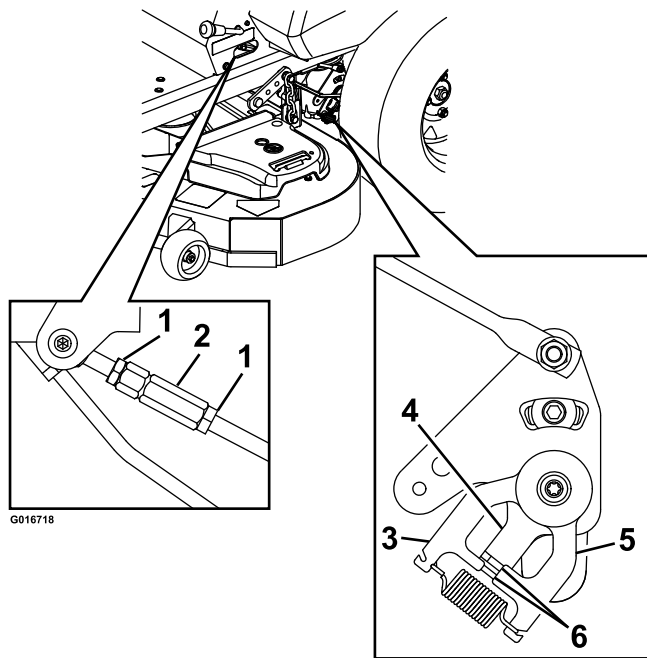

Figure 30
7. Bring the motion control levers into the neutral position. The control plate tabs should touch the return to neutral plates on the hydros. Adjust pump control rod lengths by loosening the nuts and rotating the turnbuckle in the appropriate direction until the wheels slightly creep in reverse (Figure 30). Move the motion control levers to the reverse position and while applying slight pressure to the lever allow the reverse indicator springs to bring the levers back to neutral. The wheels must stop turning or slightly creep in reverse.